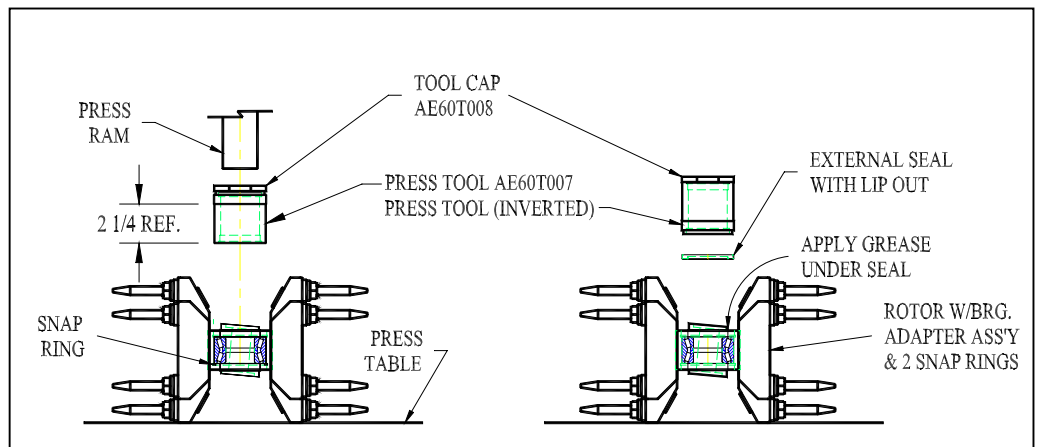

Figure 12. Rotor Hub Assembly
2. Press bearing and adapter assembly tight against the ring (see Figure 12).